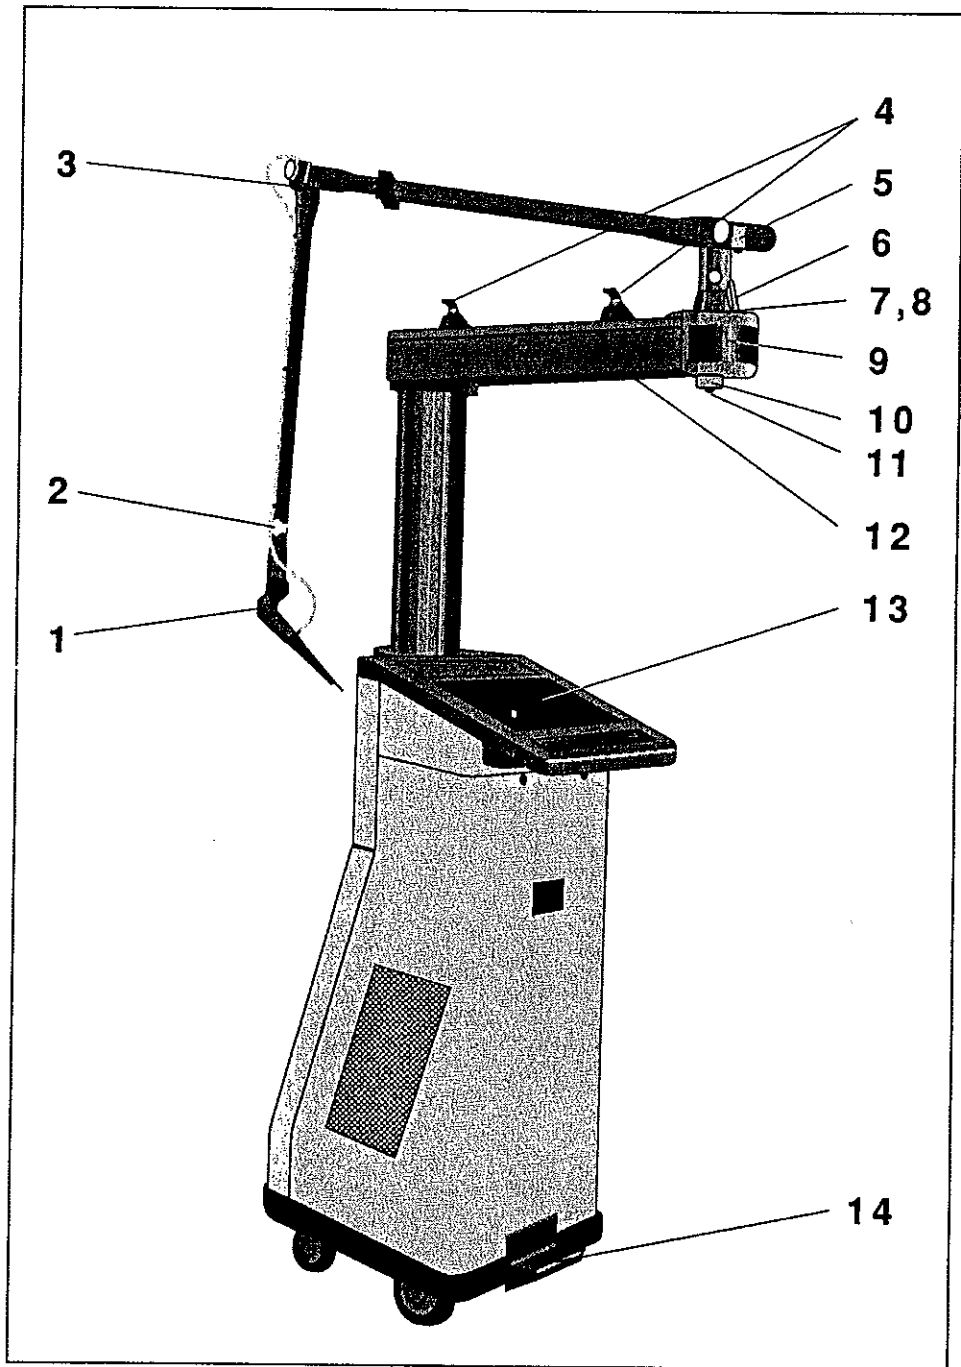

Figure 4-1. Controls, Indicators and Connections
Refer to Figures 4-1 and 4-2 for items 1 through 12.
Refer to Figure 4-1 for items 13 and 14.